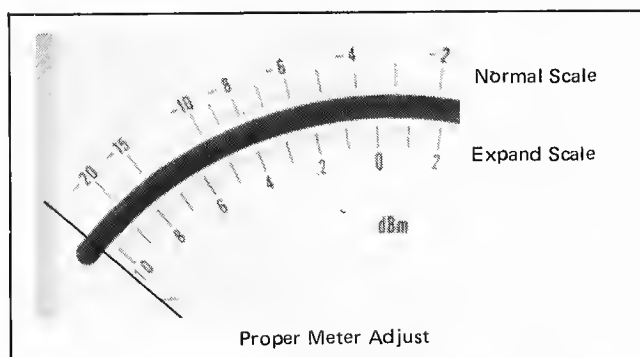

Figure 3-1. Proper Zero Adjustment of Model 312D Meter.
- d. Rotate the adjustment clockwise until the pointer rests exactly over the two zeroes on the left edge of the scale (312B) or to the left edge of the minus (-) sign for the 312D. See Figure 3-1 for a properly zeroed 312D Meter.